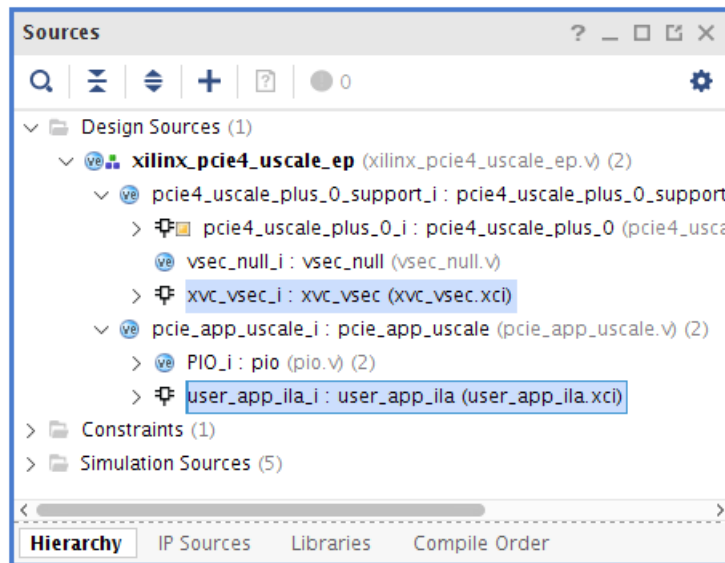

Figure D-4: Example Design Hierarchy
**Note:** Although Figure D-4 shows to the UltraScale+ Integrated Block for PCIe IP, the example design hierarchy is the same for other PCIe IPs.